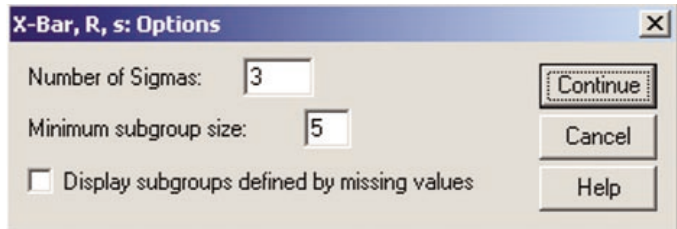

FIGURE A18.12 SPSS X-bar, R, s: Cases Are Units: Options Dialog Box
3. In the X-bar, R, s: Options dialog box (see Figure A18.12), enter **3** in the Number of Sigmas: edit box and the subgroup size of **5** in the Minimum subgroup size: edit box. Click the **Continue** button. Click the **OK** button.